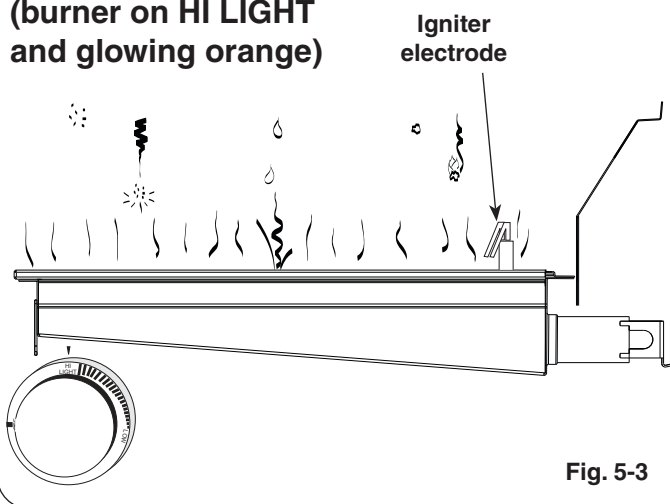

Fig. 5-3
- **DO NOT place food on the cooking grid until the infrared burner glows orange (Fig. 5-3).** Drippings are heated and evaporate instead of sticking to and impairing burner function.